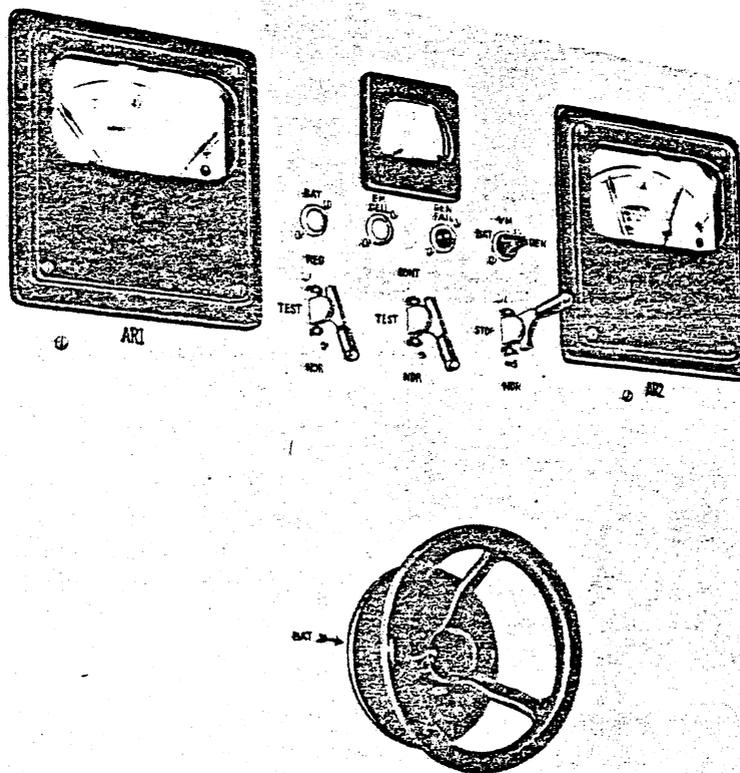
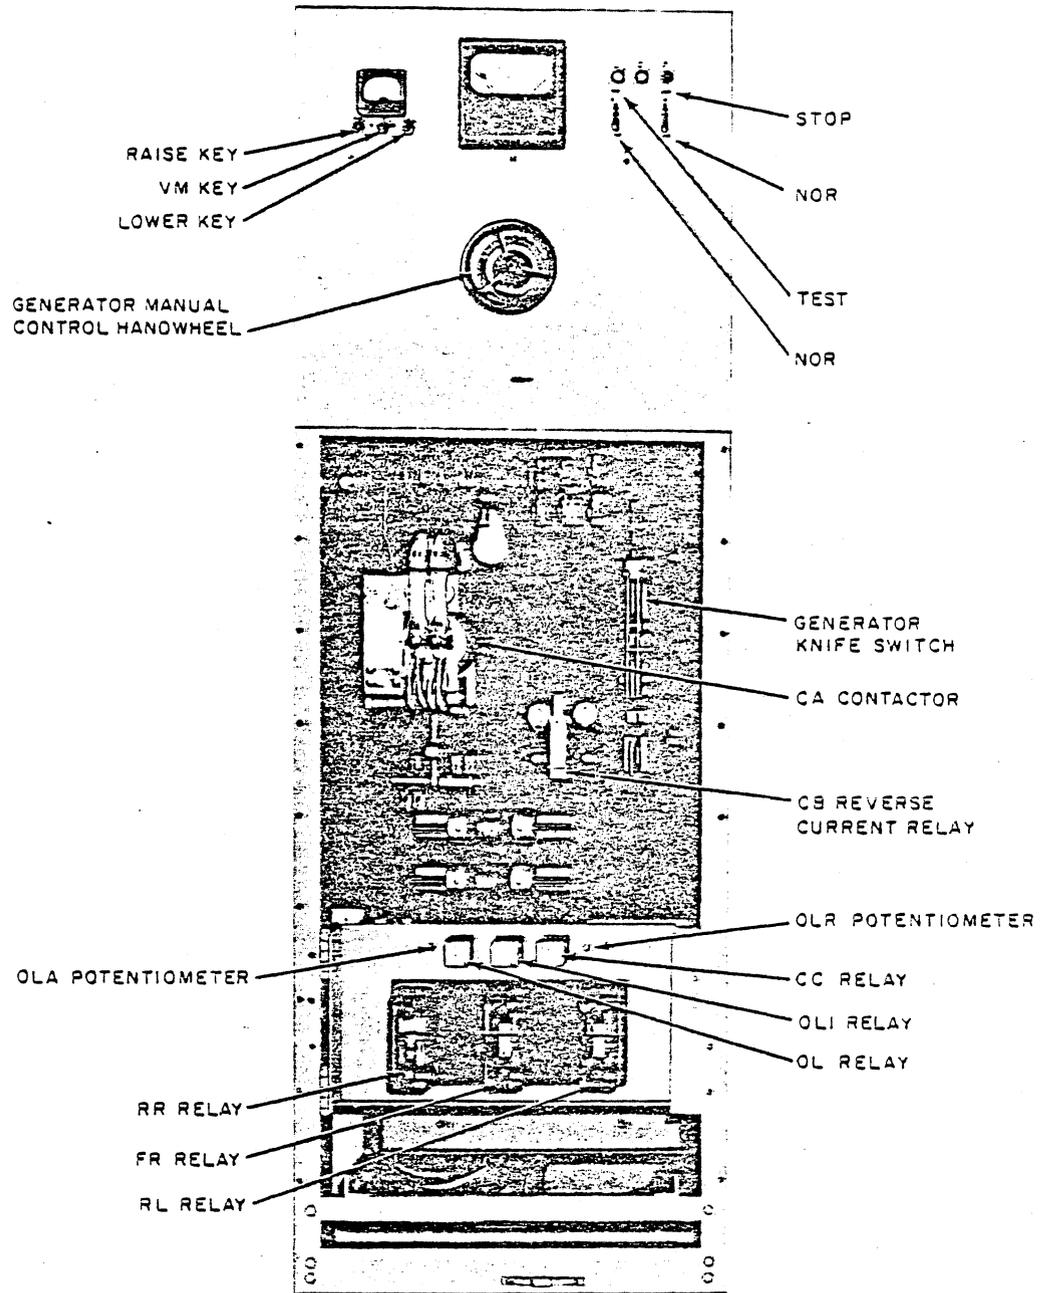

Fig. 2—Voltage Regulated Generator Controls
Fig. 4—Current Controlled Generator Control Bay
**3.01** The 302A power plant will operate with G charging units alone or in combination with G-zero charging units. G charging units can be either motor-generators or rectifiers and are arranged for voltage-regulation or current-controlled operation and are connected to operate successively. The first two charging units in the plant, G1 and G2, are electronic-type voltage-regulated units. (See Fig. 2 and 3.) All subsequent units are current-controlled (raise/lower) units. (See Fig. 4) G-zero charging units are *always* voltage-regulated rectifiers and may be added to the -24 or -48 volt plant to operate ahead of the G1 unit. In the 48-volt plant a replaced voltage-regulated G1 or G2 unit may be reconnected as a 2-step current unit. As many as two of the 2-step units may be added.
G1 AND G2 GENERATOR CONTROL BAY (Fig. 2)
G3 THROUGH G10 GENERATOR CONTROL BAY (Fig. 4)